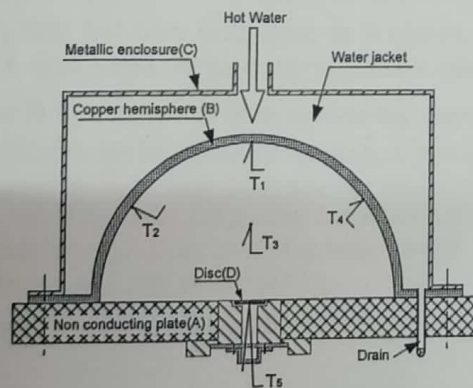

Fig. 1 Test section arrangement
Apparatus: The apparatus as illustrated in Fig. 1 is centered on a flanged copper hemisphere B, fixed on a flat non-conducting plate A. The outer surface of B is enclosed in a metal water jacket C used to heat B to some suitable constant temperature. The hemispherical shape of B is chosen solely on the grounds that it simplifies the task of draining the water between B and C. Four Chromel- Alumel thermocouples are attached to various points on surface of B to measure its mean temperature to be read by a Temperature Indicator.
11. Immersion water heater of suitable capacity, tank for hot water, suitable size water jacket for hemisphere, fixing arrangement for sleeve (Fig.1)